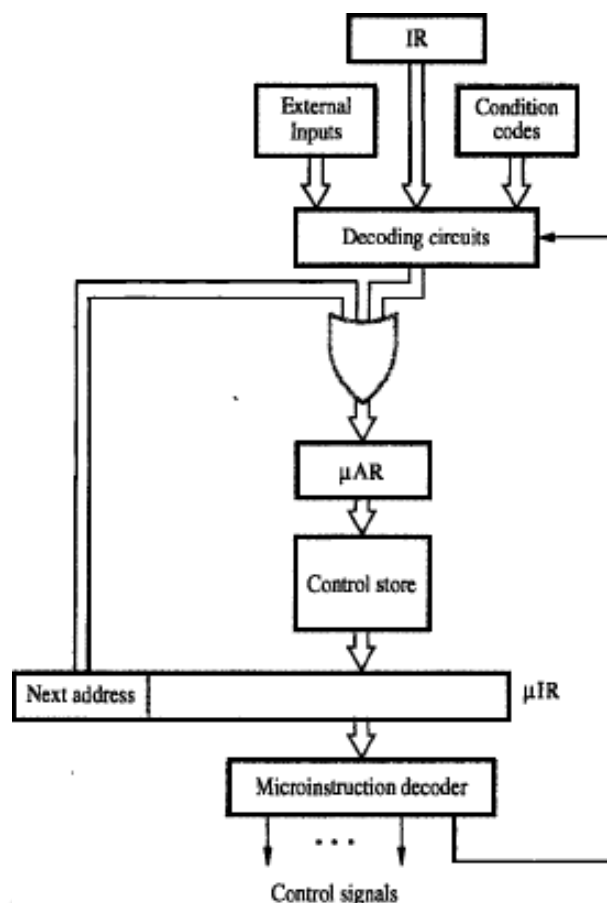

Figure 7.22 Microinstruction-sequencing organization.
• The flexibility of this approach comes at the expense of additional bits for the address-field (Fig 7.22).